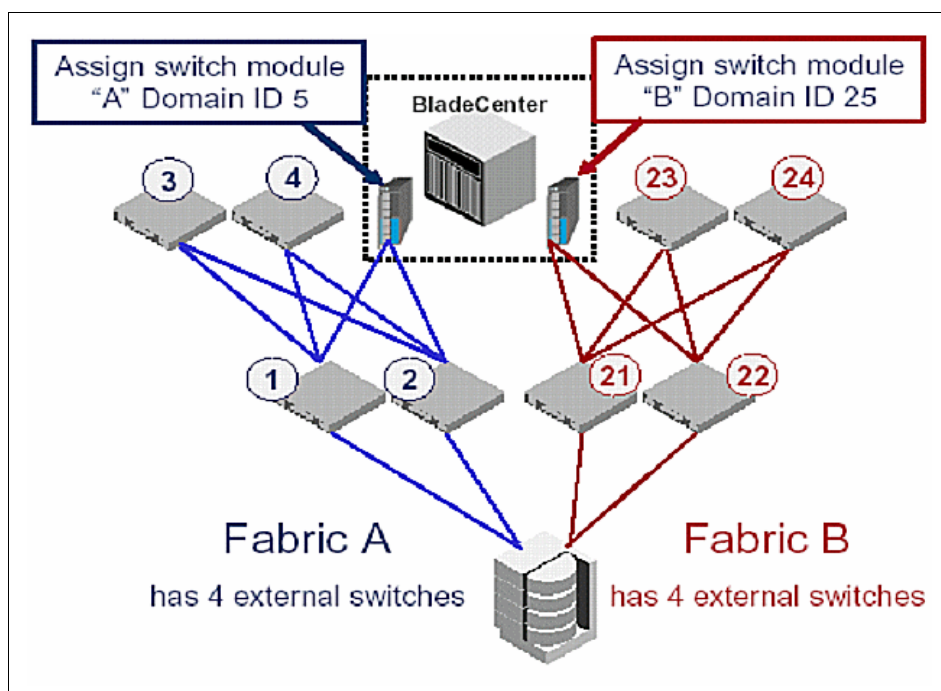

Figure 5-24 Selecting Domain ID numbers
- See Figure 5-24 as an example of both external switches and embedded switch modules.